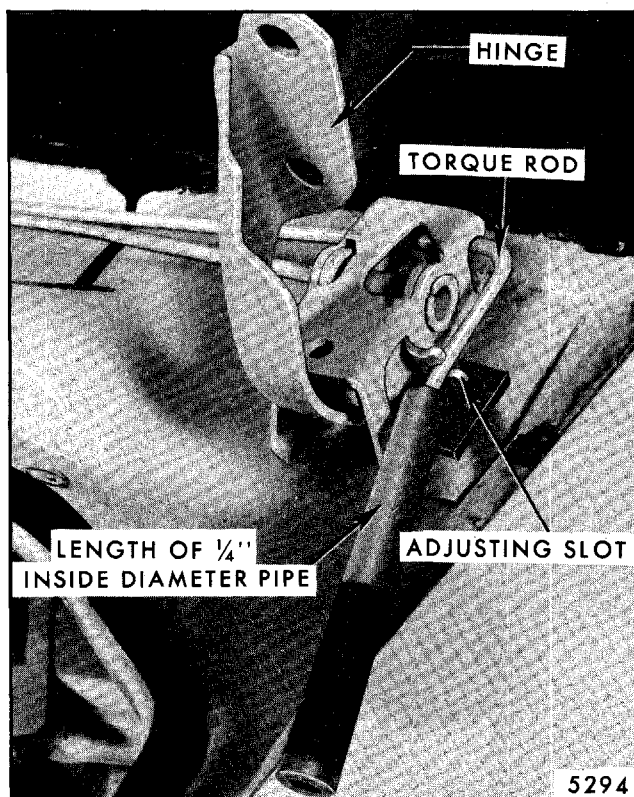

Fig. 7-47-Rear Compartment Torque Rod Adjustment - F Styles
- d. On F styles, use a length of 1/4" inside diameter heavy wall pipe (Fig. 7-47).